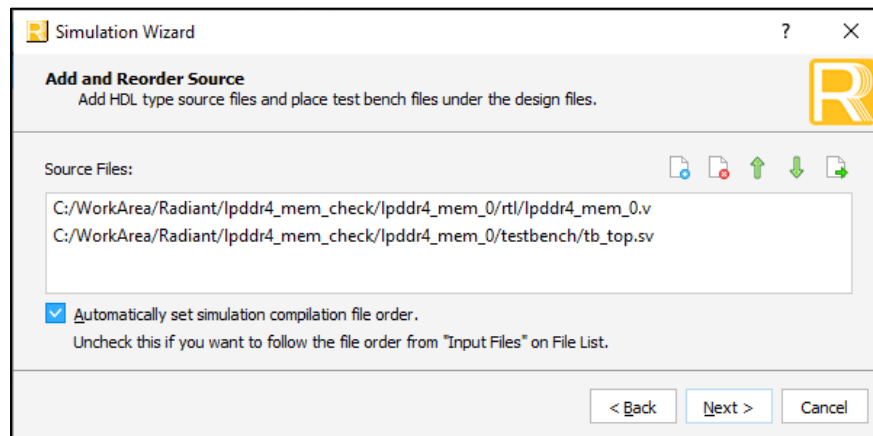

Figure 3.5. Adding and Reordering Source
- Click **Next** to open the **Add and Reorder Source** window as shown in Figure 3.5. Notice that the **Source Files** area only contain the generated IP (<Component name>.v) and the tb_top.v, which is added in Step 1. The tb_top.v includes all the necessary test files for simulation.